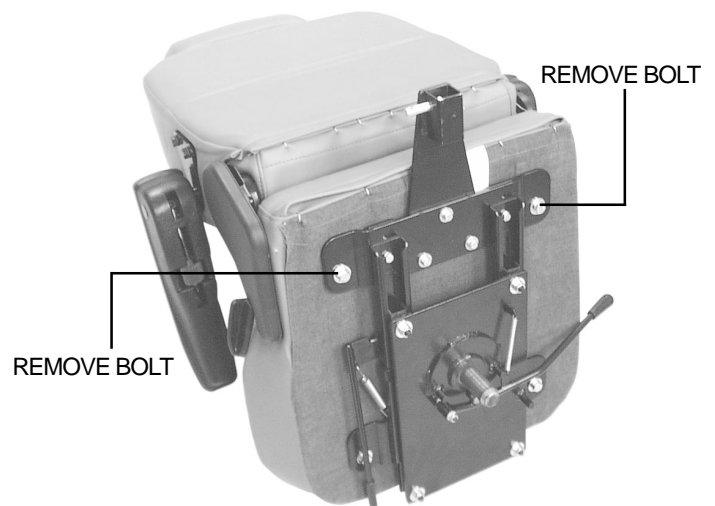

Figure 17A. Positioning Belt Installation
2. Place the seat upside down so that you can see the bottom of the seat base. See figure 17A.